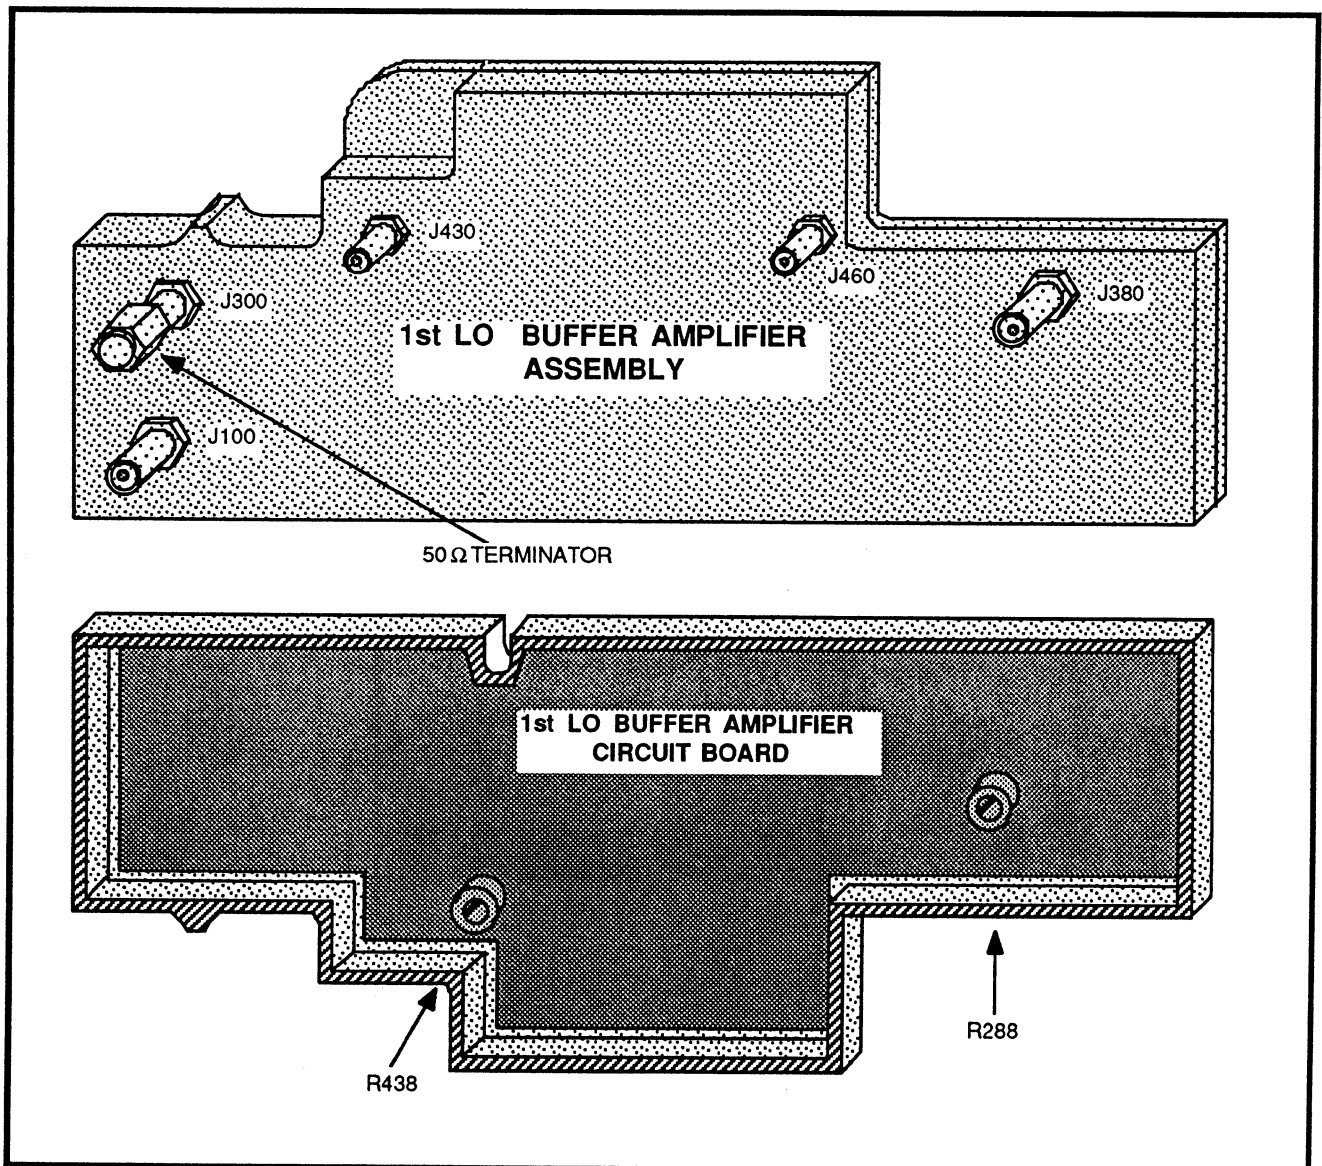

Figure 5-12. RF connectors and adjustments in the 1st LO Buffer Amplifier assembly.
e. Reconnect the 1st LO output cable and the Strobe Output cable (from the Center Frequency Control assembly) to J100 and J460 respectively on the 1st LO Buffer Amplifier assembly. See Figure 5-12.